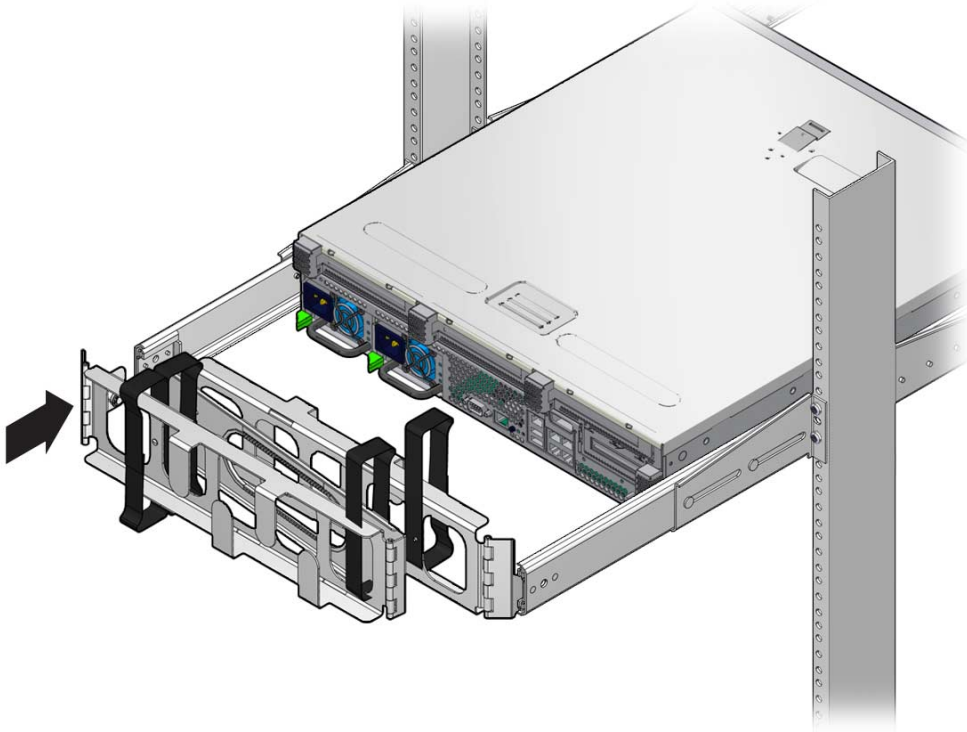

FIGURE 3-23 Attaching Cable Management Arm to Left Side
11. Attach Cable Management Arm (CMA) to rails (note labels on rails and CMA) to left (FIGURE 3-23) side.